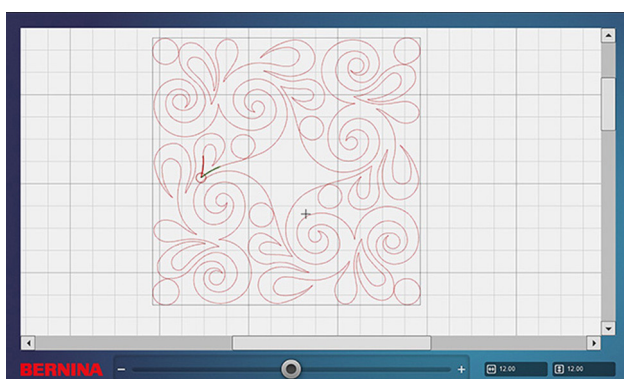

Fig. 19
2. Select the Swirls Paisley design (Fig. 19) (it will now be highlighted in red) and open the Mask tool.